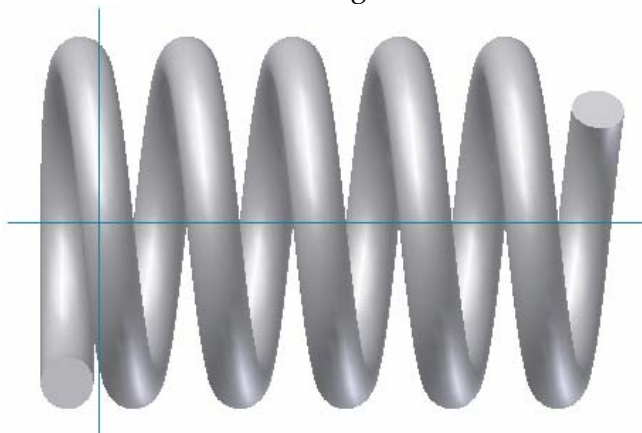

Figure 15
- Click **OK** and the result should look like Figure 15.